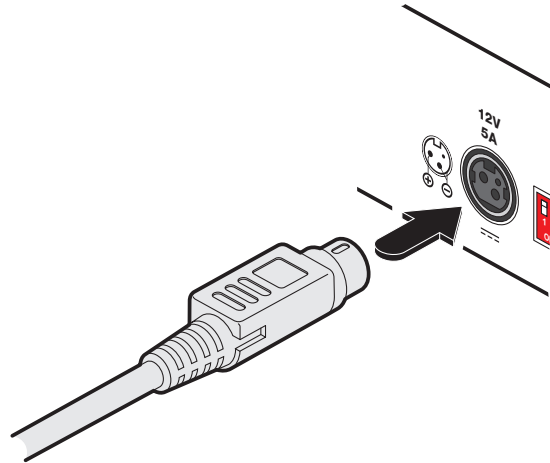

Figure 3-4. Connect the power adapter to the rear panel power socket.
- 1 Attach the output lead from the power adapter to the 12V socket on the rear panel of the KVM module. See Figure 3-4.